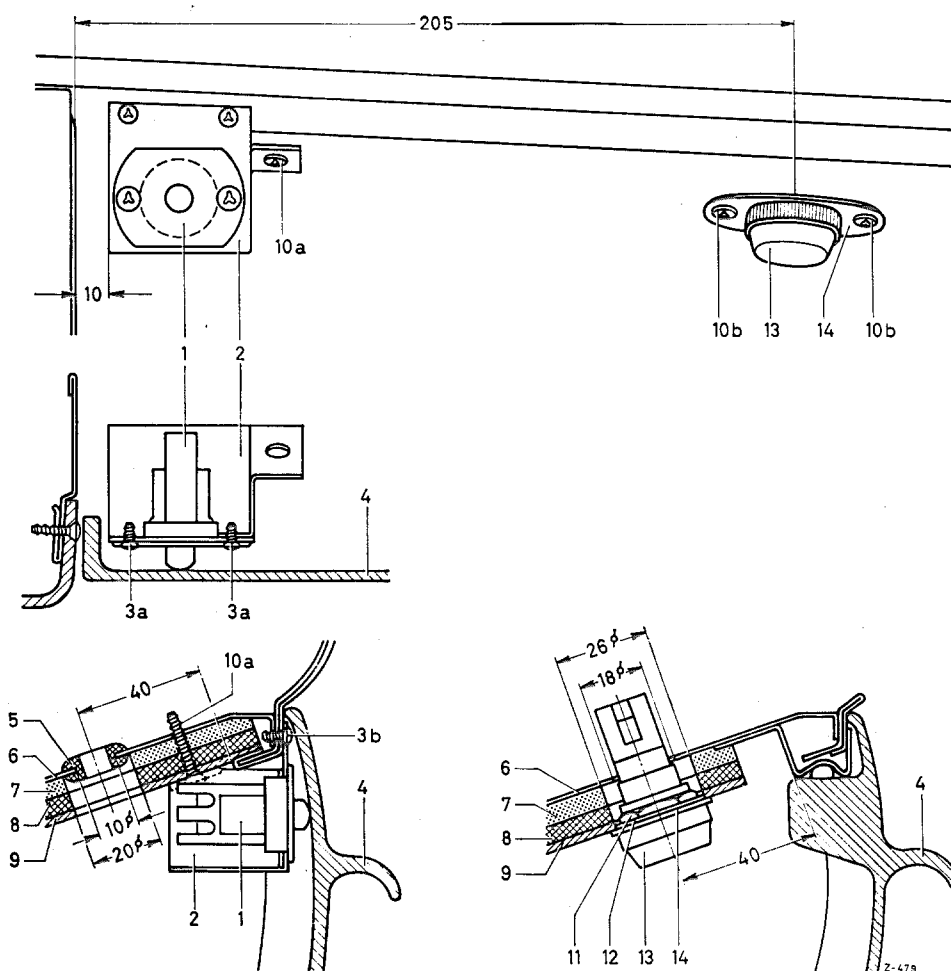

Fig. 68—4/3
2. In accordance with the specified dimensions mark the bore for the installation of the glove compartment light (13) and the bore for the rubber grommet (5) for the cable from the contact switch to the glove compartment light at the insulating cardboard (9) (see Fig. 68—4/3).
4. Remove the insulating cardboard (9) and cut the bores out of the insulating cardboard in accordance with the specified dimensions (see Fig. 68—4/3).
5. In accordance with the given dimensions mark on the body panel (6) (see Fig. 68—4/3) the bore for the installation of the glove compartment light (13) and the bore for the rubber grommet (5) for the cable from the contact switch to the glove compartment light.
6. Use a suitable corner drill and a tool of approx. 10 mm ϕ to drill the two bores in the body panel (6) (see Fig. 68 — 4/3).
7. Enlarge the bore for the glove compartment light (13) in the body panel (6) to 18 mm ϕ .
8. Deburr the bores and install the rubber grommet (5) in the 10 mm ϕ bore for the cable.
9. Install the insulating cardboard (9).
10. Hold the bracket (2) for the contact switch (1) at the ornamental cover at the specified distance of 10 mm and mark the three fixing holes (see Fig. 68 — 4/3).
13. Slide the cover plate (14) and the washer (12) from the rear over the glove compartment light (13) and tighten the hexagon nut (11) (see Fig. 68 — 4/3).
16. Use a 2.7 mm ϕ drill to drill two holes into the insulating cardboard (9) and the body panel (6) for fixing the cover plate (14) and screw in the two chromium-plated oval-head countersunk tapping screws (10 b) Z 3.5 \times 19 DIN 7983 (see Fig. 68 — 4/3).
17. Fix the contact switch (1) to the bracket (2) by means of the two chromium-plated oval-head countersunk tapping screws (3 a) Z 2.9 \times 6.5 DIN 7983 (see Fig. 68 — 4/3).
19. Working from the aperture for the clock, push one of the two cables from the glove compartment light through the rubber grommet (5) and connect the cable to the contact switch (1) (see Fig. 68 — 4/3).
20. Push the loose cable of the contact switch through the rubber grommet (5).
Install the contact switch (1) together with the bracket (2) and fix it at the front by two oval-head countersunk tapping screws (3 b) Z 2.9 \times 6.5 DIN 7983 and at the right rear with an oval-head countersunk tapping screw (10 a) Z 3.5 \times 19 DIN 7983 (see Fig. 68 — 4/3).